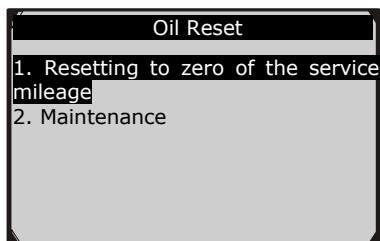

Figure 7.11
- In the **Oil Reset** menu (Figure 7.11), select **Maintenance** function and press **OK** button. The screen will display the preset maintenance information of the vehicle. The information items vary with different vehicles.